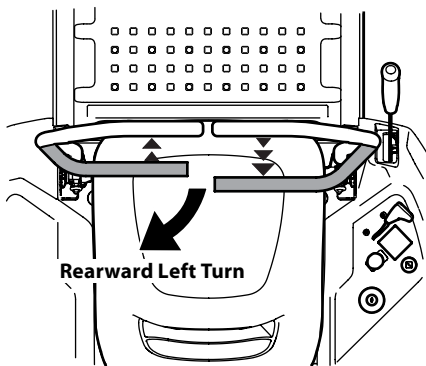

Figure 3-8
1. To turn to the left while traveling in reverse, move the left drive control lever forward of the right drive control lever. See Figure 3-8.